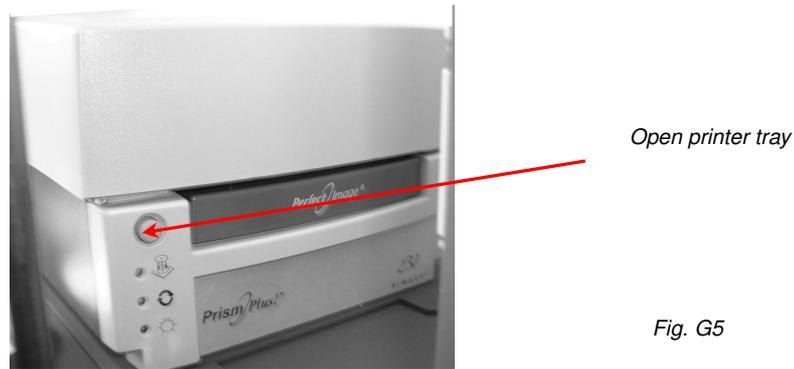

Fig. G5
2. Open the printer tray by pressing the key on the front of the printer (figure G5)